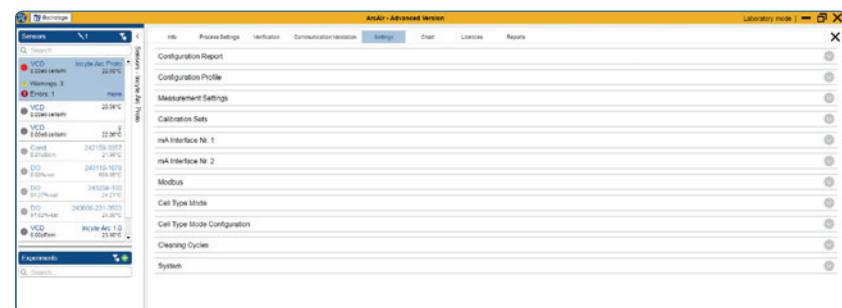

Figure 35: Sensor Settings Overview
- 1) Go to the «Measurement Settings» (figure 35).